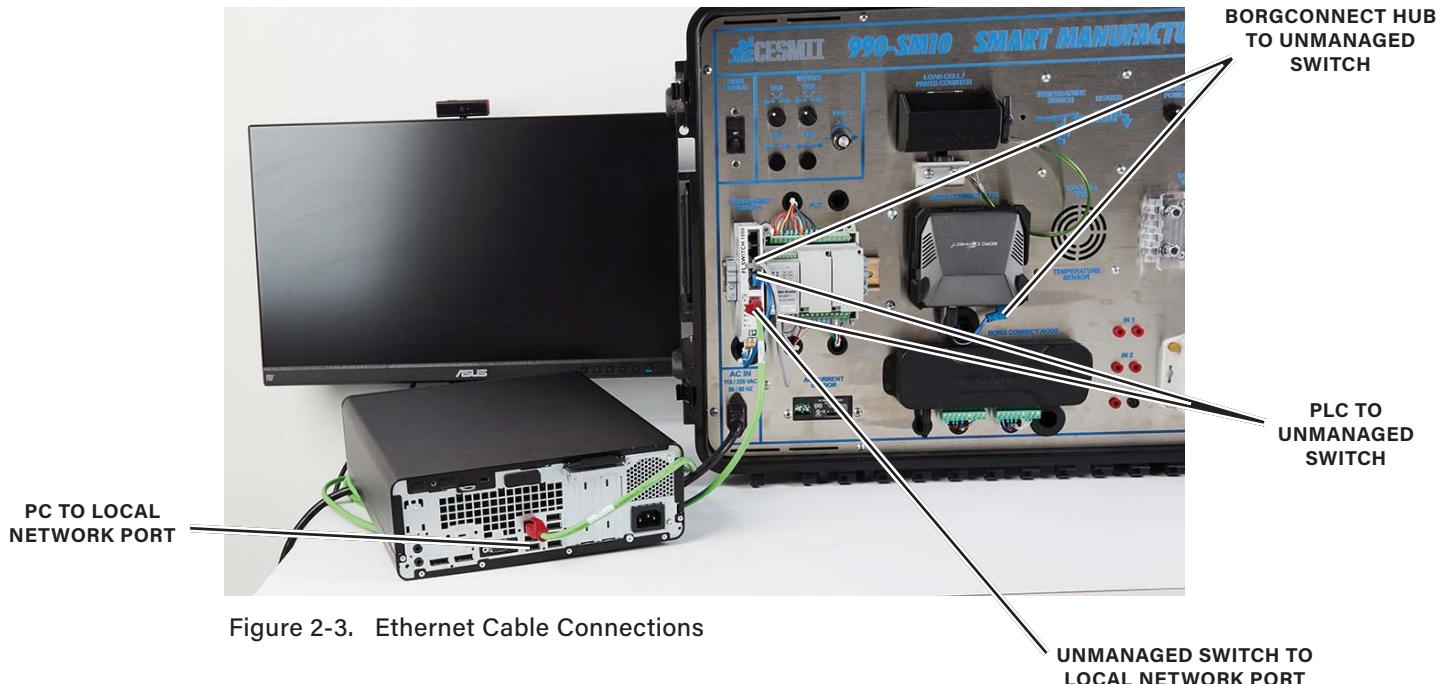

Figure 2-3. Ethernet Cable Connections
- Connect the Ethernet cables between the unmanaged switch, PLC, PC, and local network port, as shown in figure 2-3.